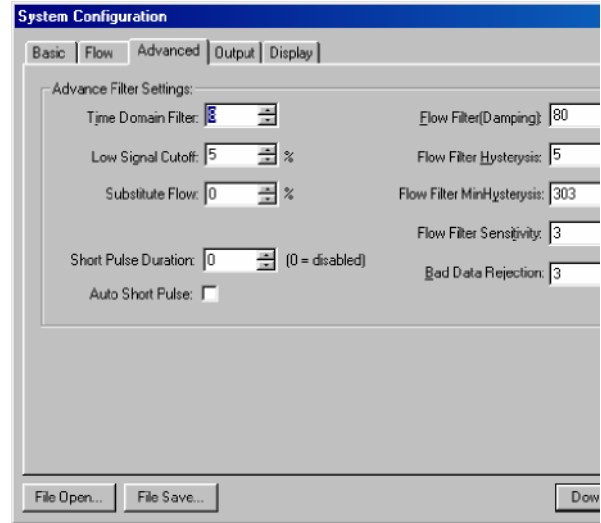

Figure 3.5
3. ADVANCED TAB—See Figure 3.5